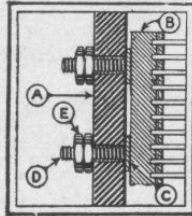

Figure 1.
The stator plates (see Fig. 1) are swedged into grooves in brass blocks (B) by a special assembly process which insures unvarying pressure and avoids any risk of conductivity losses. The grooves in the blocks are sufficiently deep and long to afford a rigid alignment of the stator plates and also act to prevent any changes in the clearances at their centers.
Figure 2. Theoretical Sketch (cross section), showing how losses are held low. Note that the shaft and rotor plates are one side of circuit and are grounded to end plates. The stator plates are supported by screws (refer to Fig. 1), which hold the blocks (B) into which the plates are swedged. These screws give no real contact to the insulation, but the inner seating washers (C) and the outer lock nuts (E) are relatively small in surface, resting against the insulation (A). In Figure 2, the distances (W) are practically air spaced from the insulation. This reduces the amount of surface of the high (stator) side to the insulation, thereby reducing hysteresis losses to a minimum. The intensity of the field is indicated by the fine lines between the plates and the stray field by the fine curved lines. Note that the blocks holding the stator plates act as shields to keep the stray fields out of the insulation. Also note that the distance (X) is relatively large and affords an extremely high resistance path to the currents which might tend to leak across the insulation. The distances (Z) permit a low minimum capacity as does also the plate spacing between rotor-shaft elements and stator plate edges.